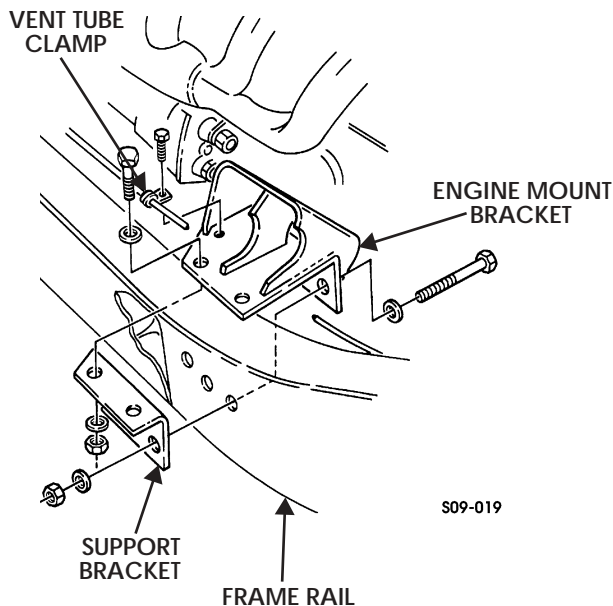

Figure 9-31: Right Engine Mount Bracket
2. Remove two locknuts, washers, capscrews, and washers securing support bracket to engine mount bracket. Discard locknuts (Figure 9-31).
1. Install support bracket and engine mount bracket on frame rail with three washers, capscrews, washers, and locknuts (Figure 9-31).